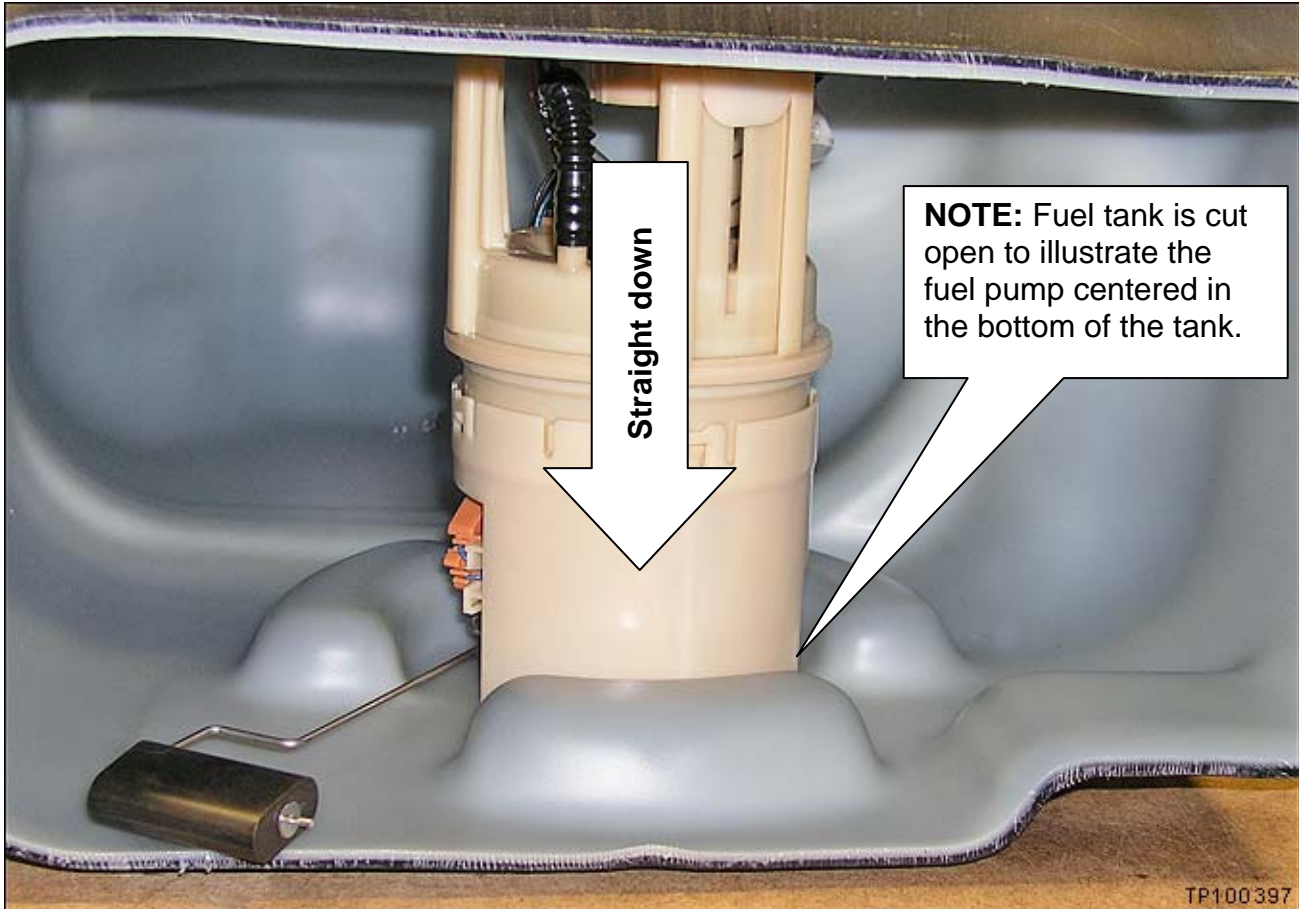

Figure 5
- **Make sure the fuel pump assembly is installed straight down into the tank as shown in Figure 5.**